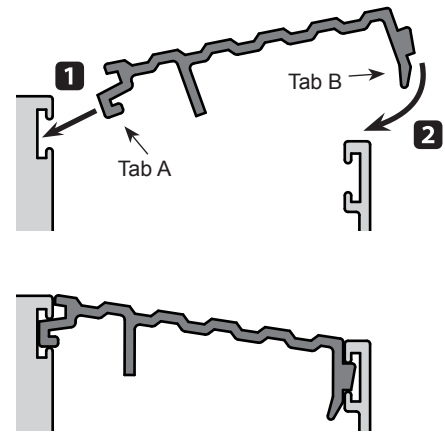

FIG. 24
2. To install the threshold cap, first insert Tab A into the center leg of the sill and snap Tab B into the exterior leg of the sill. (FIG. 24)